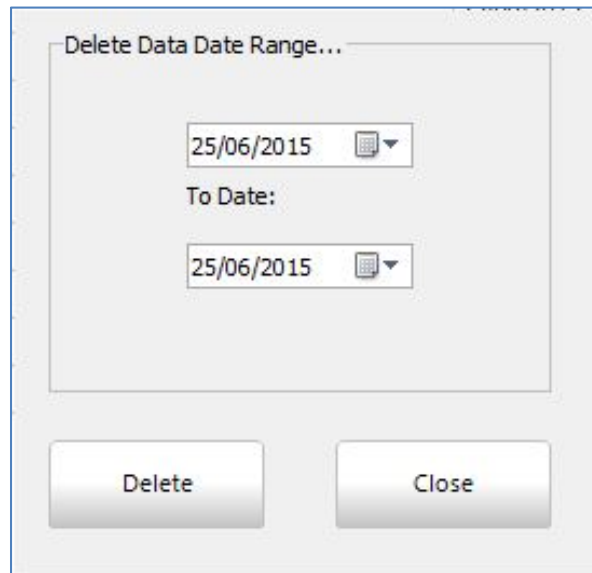

Figure 33
- Select the data range to be deleted (**Figure 33**)